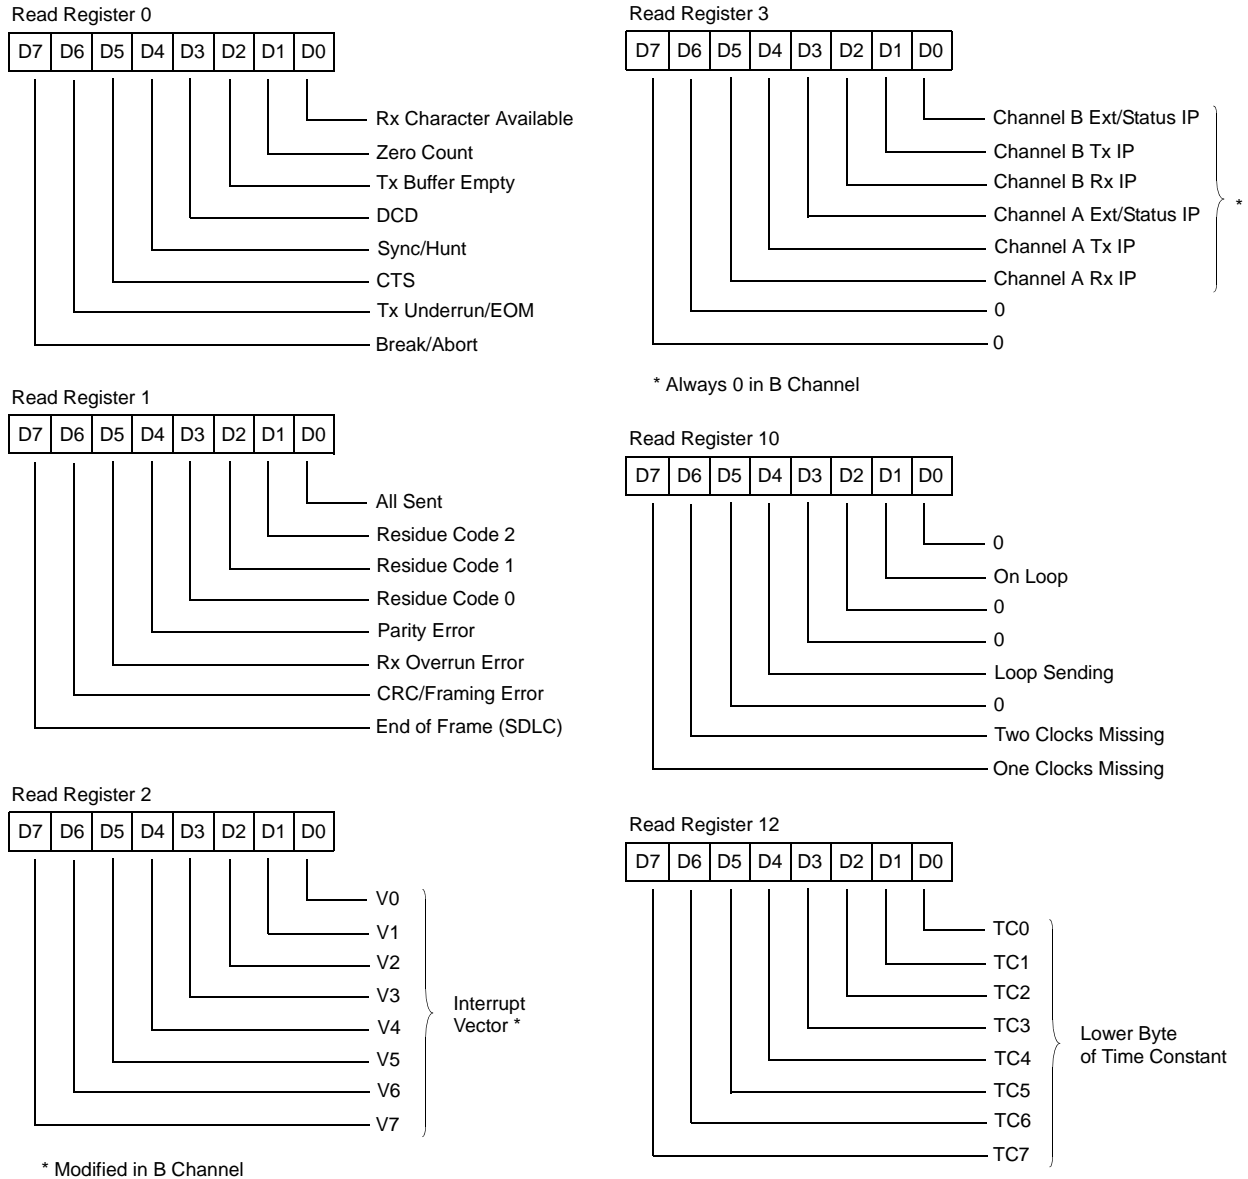

Figure 19. Read Register Bit Functions, #1 of 2
The SCC contains ten read registers (eleven, counting the receive buffer (RR8) in each channel). Four of these can be read to obtain status information (RR0, RR1, RR10, and RR15). Two registers (RR12 and RR13) are read to learn the Baud Rate Generator time constant. RR2 contains either the unmodified interrupt vector (Channel A) or the vector modified by status information (Channel B). RR3 contains the Interrupt Pending (IP) bits (Channel A only; see Figure 19). RR6 and RR7 contain the information in the SDLC Frame Status FIFO, but is only read when WR15 D2 is set (see Figures 19 and 20).